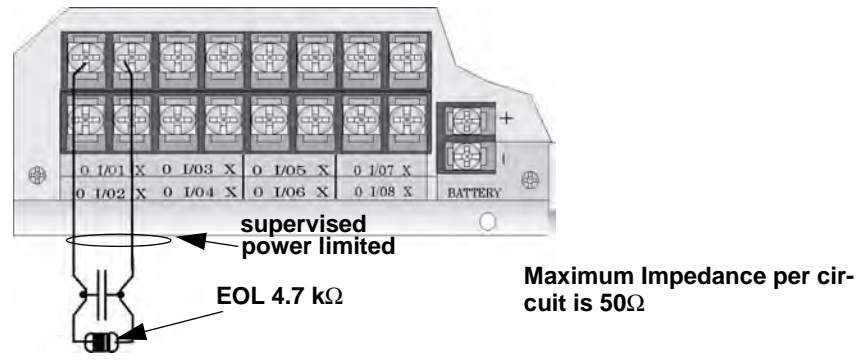

Figure 4.39 Class B Input Switches
1. Wire the Class B switch as shown in Figure 4.39.